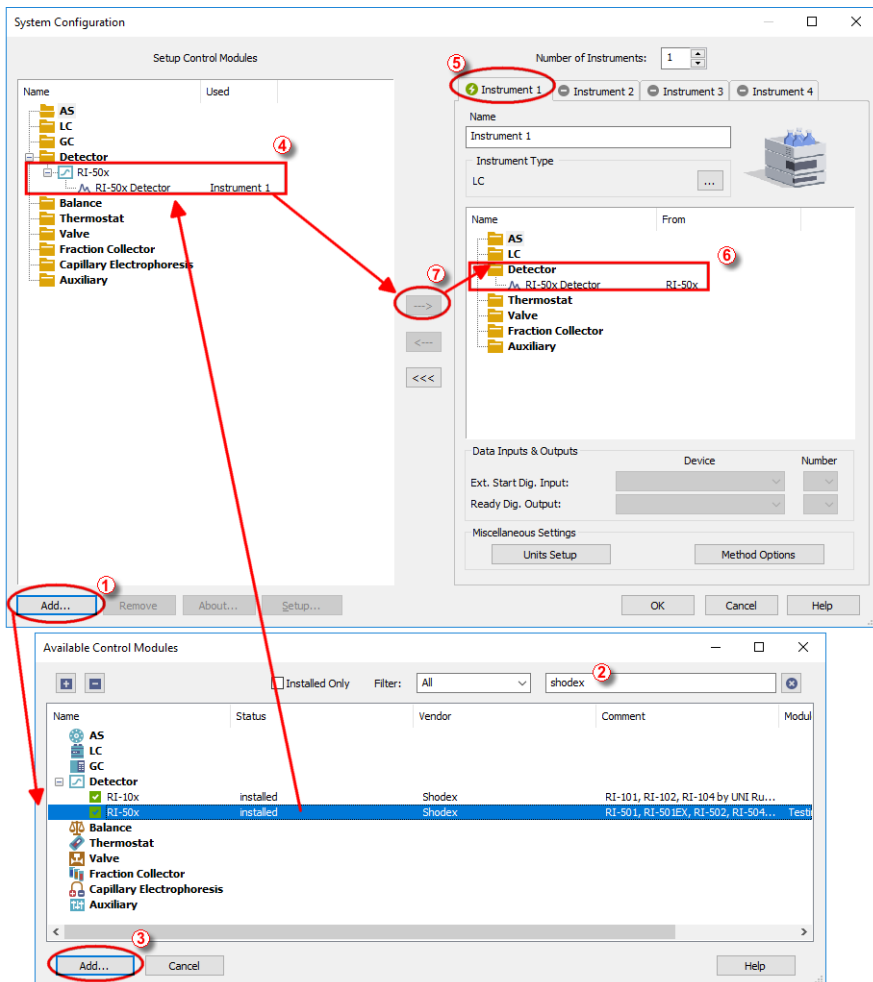

Fig 2: How to Add Shodex RI-501 module
- Press the **Add** button (1) on **Fig 2** on pg 4.) to invoke the **Available Control Modules** dialog.
- You can specify the search filter (2) to simplify the finding of the driver.
- Select the correct item and press the **Add** (③ on **Fig 2** on pg 4.) button. Each device with already created UNI profile should have its own item named accordingly in the **Available Control Modules** dialog.